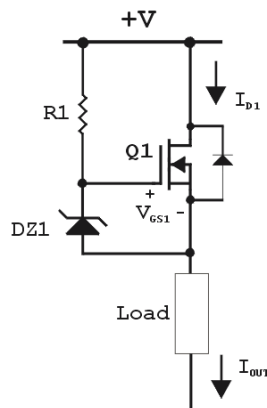

Figure 4: An N-Channel Depletion-mode MOSFET (Q1) as a current source [1]
Figure 4 shows another constant current source with Depletion-mode MOSFET, Q1 and the gate-to-source Zener diode DZ1. The required V_{GS1} will determine the necessary resistor value for R1 using the same formula (2). This design may useful in higher voltage circuits. The voltage limit on V+ will be determined by the V_{DSS} rating of the devices.